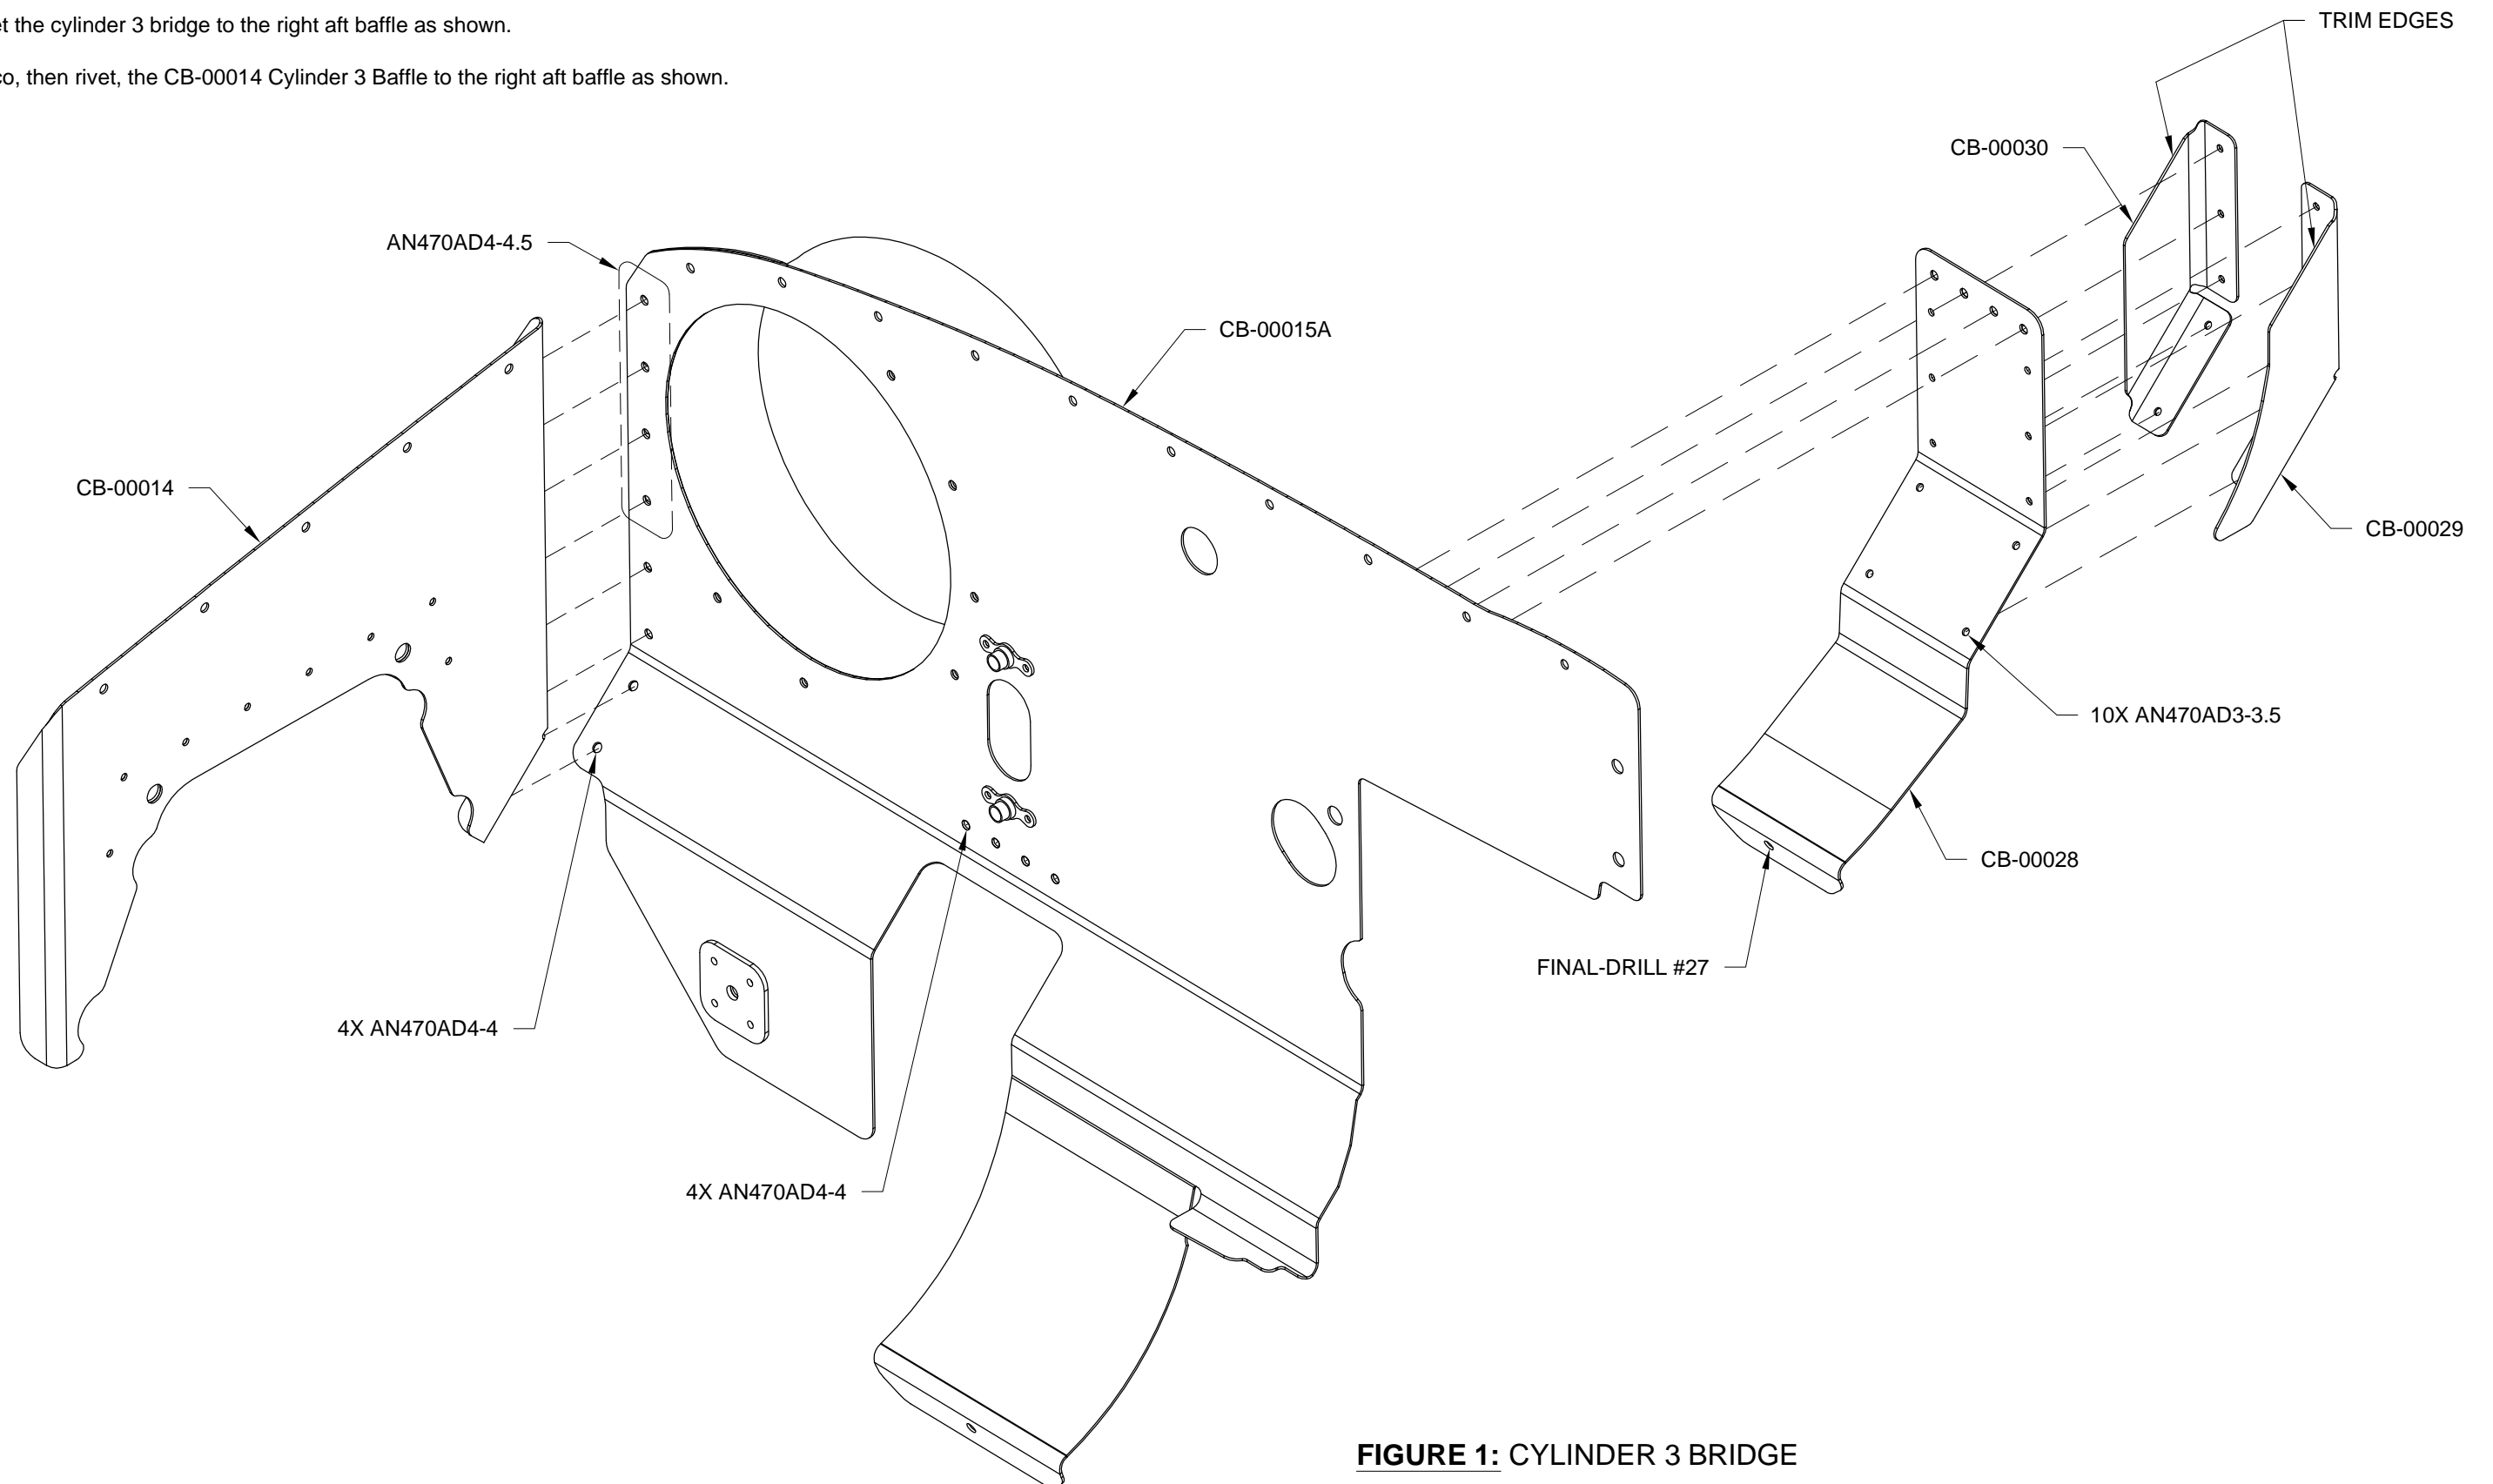

FIGURE 1: CYLINDER 3 BRIDGE
Step 1: Machine countersink the nutplate rivet holes in the CB-00016 Aft Center Bracket as shown in Figure 1.
Step 2: Rivet the nutplates to the aft center bracket as shown in Figure 1.